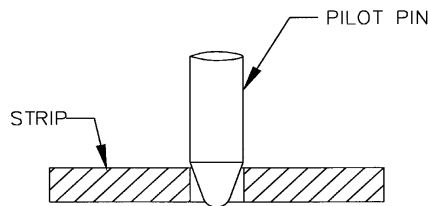
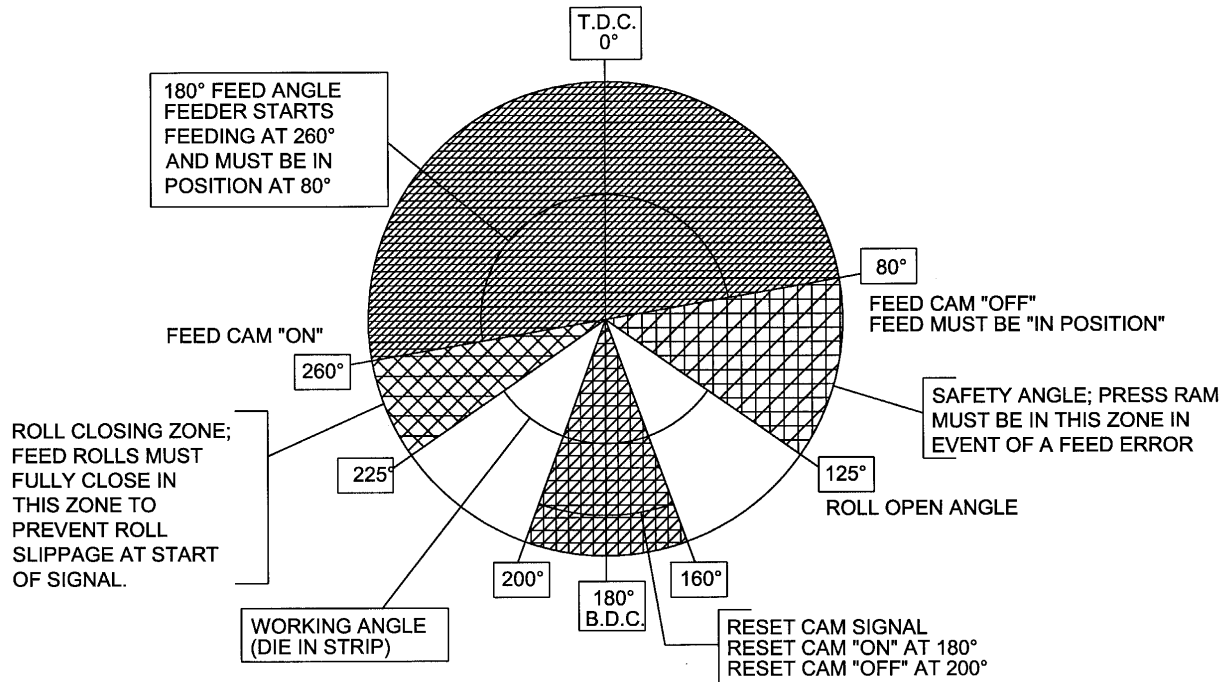

FIGURE 4
FIGURE 5
9. Jog the press down slowly observing when the longest pilot would engage the pilot hole in the material if the material were there. (Refer to Figure 4.) Note the press positional readout and put this setting into your Programmable Limit Switch (PLS) for the '**Pilot Release On**' setting. The '**Pilot Release Off**' setting, in most cases, should be 180°. (See Figure 5.) Some drawing applications require the rolls to remain open past 180°.
10. Continue to jog the press slowly until the longest pilot just comes out of the material. Note the press positional readout and put this setting into your PLS for the '**Feed Cam On**' setting. Set the '**Feed Cam Off**' point so that there is enough time to complete the feed length and enough time to stop the press, if there is a feed fault. (See Figure 5.)
11. Set the '**Reset Cam On**' for 180 degrees and '**Reset Cam Off**' for 200 degrees. This setting should never need changing. (See Figure 5.)